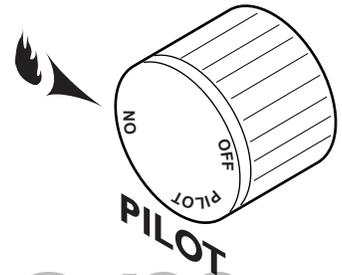

Figure 40 - On Position
Depress and turn the knob counterclockwise  to the “ON” position. *See Figure 40.* It will take less than four (4) seconds for the burner to ignite.